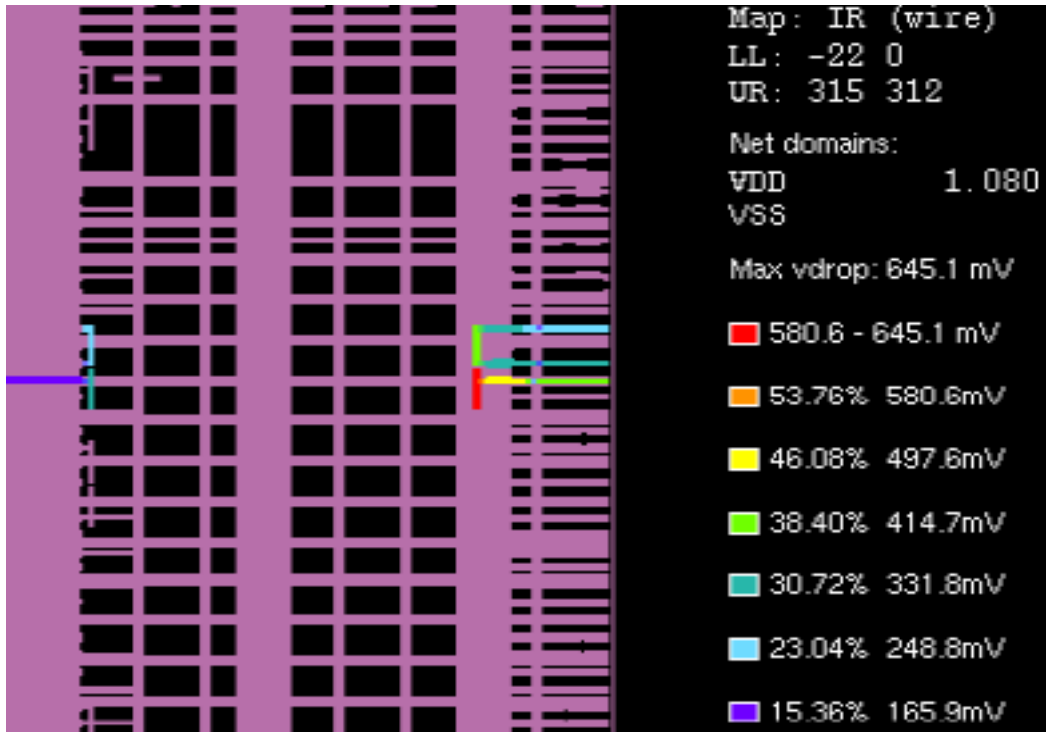

Figure D-1 Example dump of GIF file of RedHawk colormap
- a. The 'dump gif' command writes out colormaps in GIF format. You may set the color mapping scale by using 'config viewlayer' and 'config viewnet' commands, or by using the 'import guiconf' command to load a previously saved GUI configuration file for a particular color map. Otherwise, it uses the system default settings. The command generally uses the same color map names as are on the GUI view and menu functions. This command is supported in both GUI mode and Batch mode. The GIF graphic saved is exactly as shown on the display, with the directory path at the bottom and key parameters about the display conditions on the right side, as shown in Figure D-1.